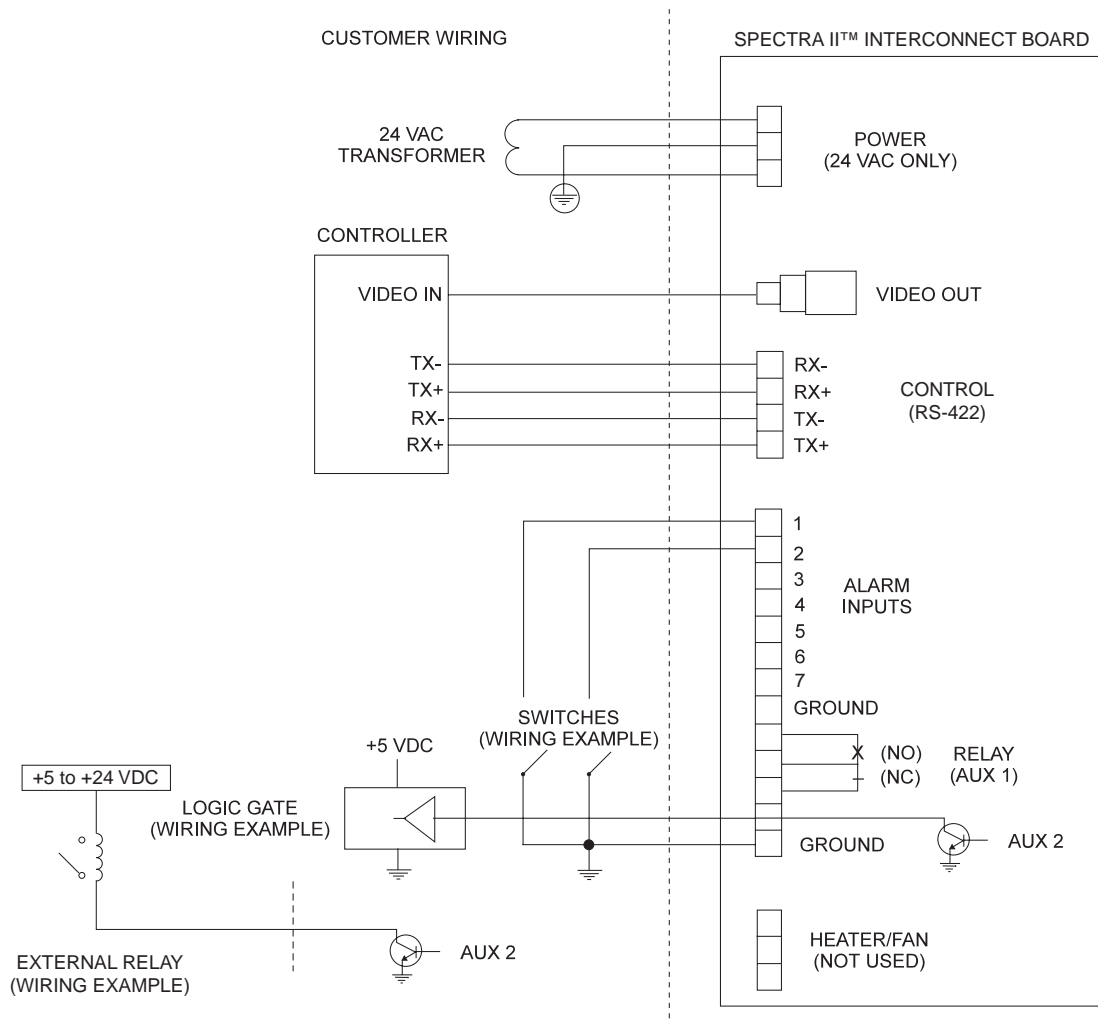
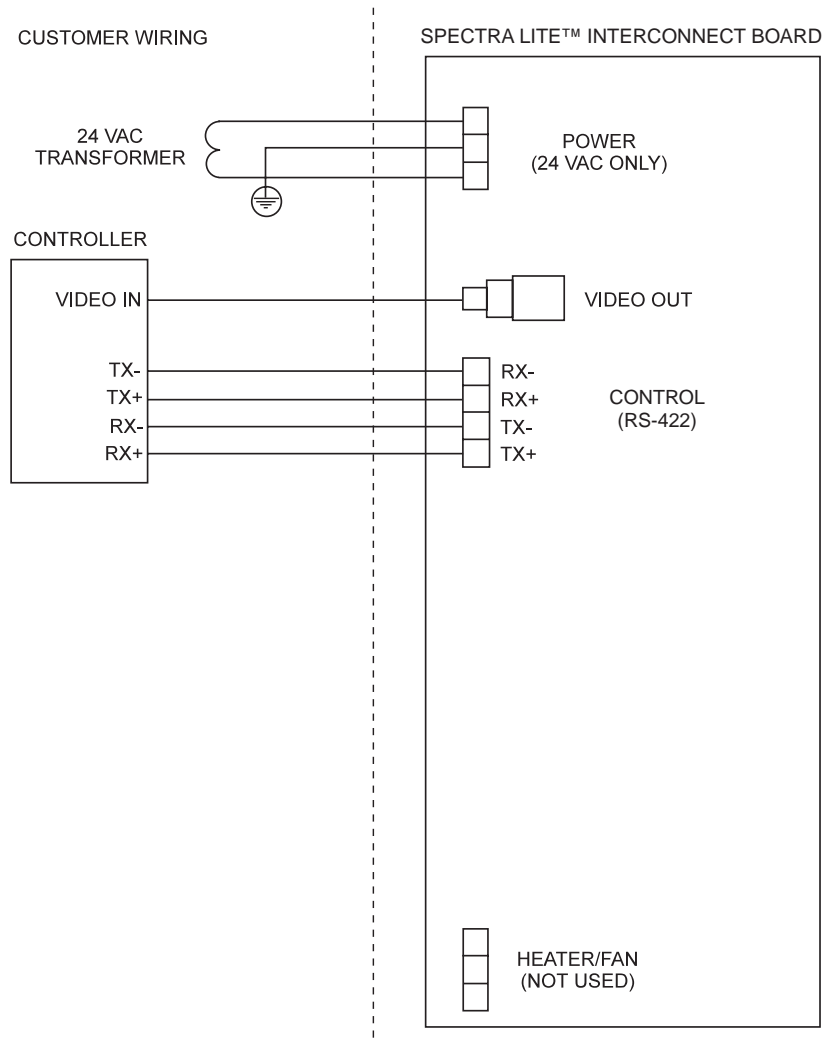
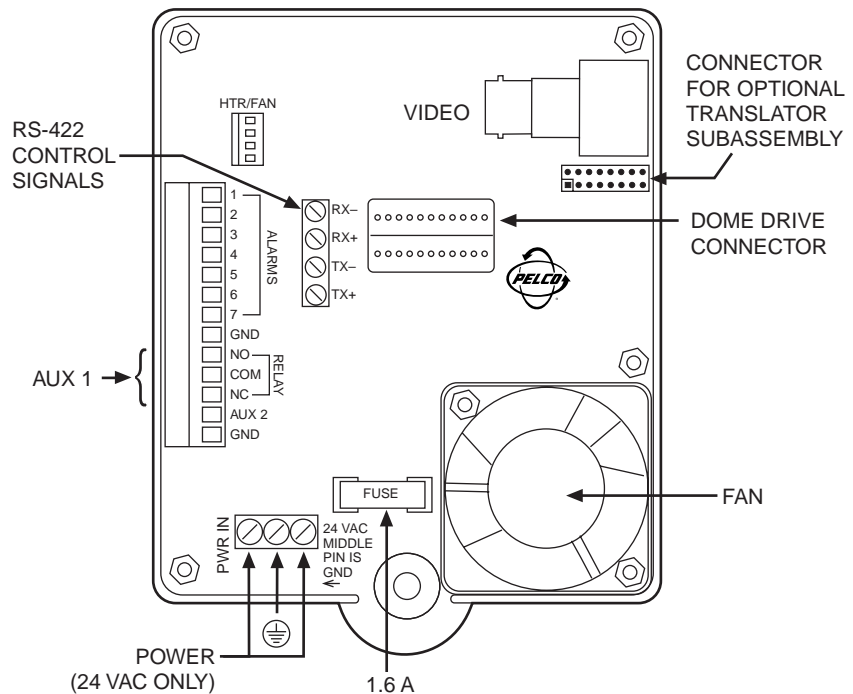

Figure 8. Wiring Diagram for Spectra II™
Figure 9. Wiring Diagram for Spectra Lite™
Figure 12. Interconnect Circuit Board Electrical Connections for Spectra II™
Refer to Figure 8 for the Spectra II™ wiring diagram or Figure 9 for the Spectra Lite™ wiring diagram.
Refer to Figure 12 or 13 to attach the wiring to the interconnect circuit board inside the back box. Also refer to Figure 8 or 9 if necessary.
6. Alarm Inputs - (Spectra II™ Only) If you need alarm inputs, connect them. The maximum number of alarm inputs is seven. Refer to Figure 8 for a typical wiring example. Alarm inputs require a ground signal through a contact closure, such as a switch.
7. AUX 1 - (Spectra II™ Only) An AUX 1 command from the controller will activate the relay output. If you need the relay, wire it as required. Refer to Figure 8. The relay contacts are shown when AUX 1 is inactive. When an AUX 1 command is issued, the relay contacts will reverse and remain latched until a clear command is issued.
8. AUX 2 - (Spectra II™ Only) An AUX 2 command from the controller will place a ground at the output of AUX 2 to operate the device connected to it. The output will remain latched until a clear command is issued. If you need the AUX 2 output, wire it as required. Refer to Figure 8 for typical wiring examples. The AUX 2 output is an open collector transistor driver that can pass a maximum of 150 mA at 32 VDC. It is capable of driving TTL logic circuits or low-current reed relays. If you use an external relay, make sure that both the supply voltage and the current requirements are well below the maximum of 32 VDC and 150 mA. Exceeding these values will cause permanent damage to the dome. If you are not familiar with open collector drive requirements, contact Pelco technical support for assistance.